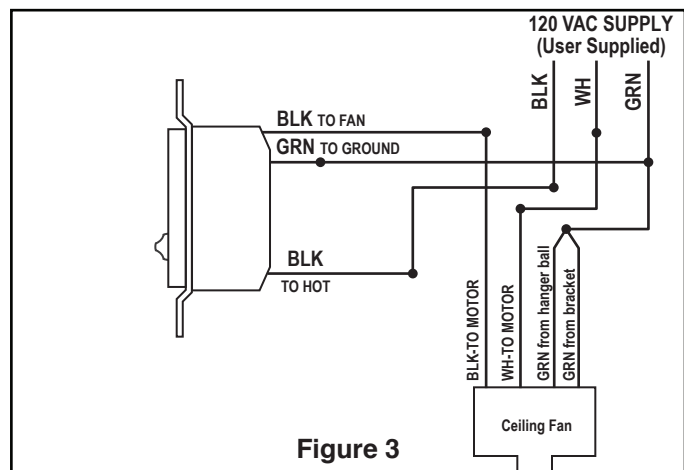

Figure 3
Wiring Wall Control (Figure 3):
- Make wiring connections with wire nuts as shown in Figure 3.